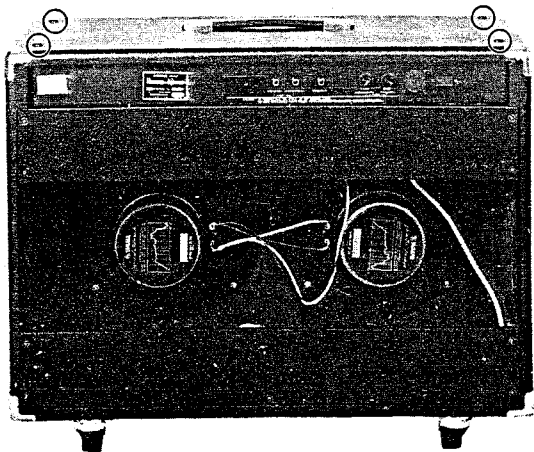

Figure 3
1. Remove the 4 screws securing the amp unit to the cabinet, as shown in Figure 3.